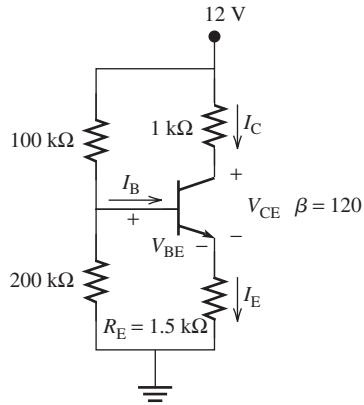
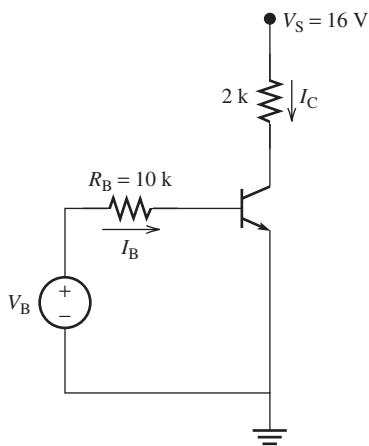
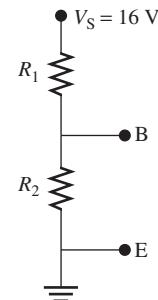

FIGURE P8.42 Circuit for Problem 8.42.
FIGURE P8.44 Transistor circuit for Problems 8.44 and 8.45.
FIGURE P8.45 Hint circuit for Problem 8.45.
- 8.42** (A) For the circuit shown in Figure P8.42, find V_{BE} , I_B , I_C , and V_{CE} .
- 8.43** (B) Find the equivalent circuit of the one shown in Figure P8.42. (Hint: the equivalent circuit looks like the one shown in Figure P8.44.)
- 8.44** (A)* For the circuit shown in Figure P8.44, find V_B such that $I_C = 6 \text{ mA}$. $\beta = 200$.
- 8.45** (H) If $V_B = 4 \text{ V}$ for the circuit shown in Figure P8.44, find an equivalent circuit replacing V_B and R_B , having the source from V_S . (Hint: The circuit looks like Figure P8.45.)